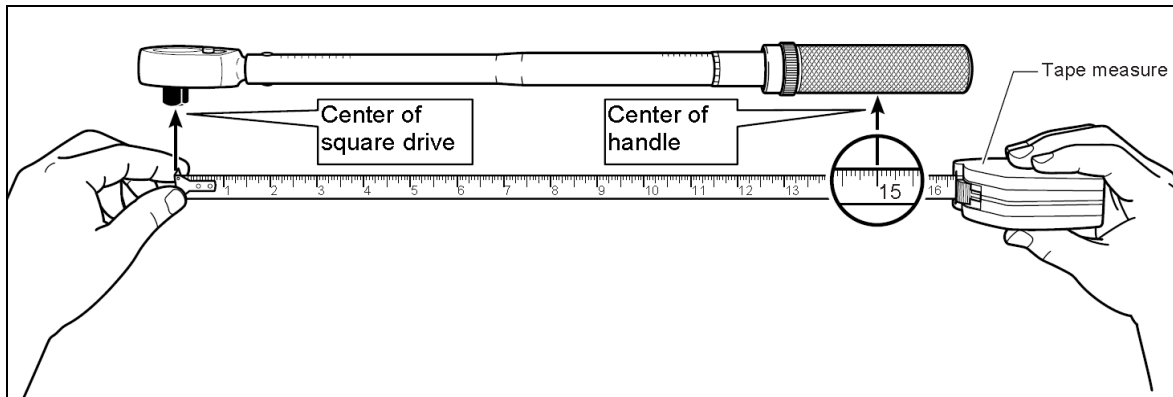

Figure 12
- a. Measure the length of your torque wrench between the center of the handle and the center of the square drive as shown in Figure 12.